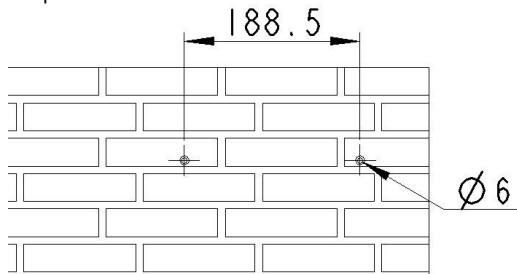

Fig.4-1: Drill the holes
Step 1: Drill two holes using a $\Phi 6$ bit for installing screws at the selected installation position. The distance between the two holes is shown in Fig. 4-1. The holes should be at least 30mm deep. After clearing the dust from the holes, measure the net depth of the holes.